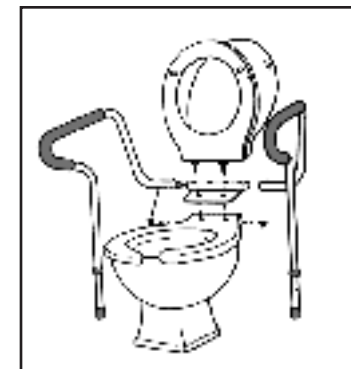

Figure 1
2. Place toilet safety frame bracket between toilet fixture and toilet seat / lid assembly with rounded part of bracket facing back of toilet (Figure 1).